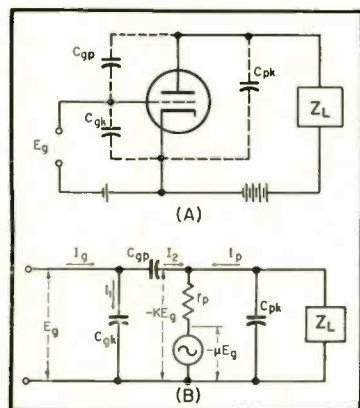

Fig. 1 (A). Typical tube circuit with inter-electrode capacitances indicated. (B). A.c. equivalent circuit at high frequencies.
Figure 1(A) shows the circuit of a triode with the interelectrode capacitances contributed by the tube geometry indicated by dotted lines. The equivalent circuit for this tube is shown in Fig. 1(B). If an alternating current signal E_g is applied at the input terminals, alternating currents will flow through the capacitors C_{gp} and C_{gk} . These currents together will be I_g . The amount of current I_g that flows through these capacitors is determined by the voltage and frequency of the alternating current input in addition to the gain and plate resistance of the tube and its load impedance. Examining the circuit, we see that the output voltage of the tube is effectively